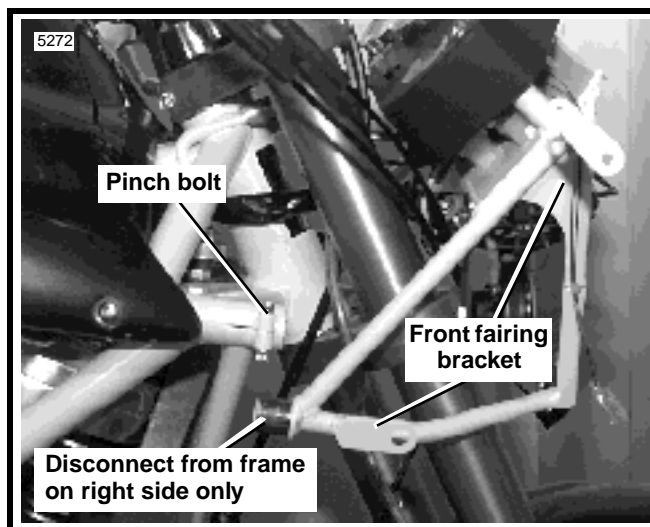

Figure 2. Front Fairing Bracket
6. Remove front fairing (9) from front fairing bracket.
8. See Figure 2. Loosen left and right pinch bolts on front fairing bracket
1. See Figure 2. Slide right side of front fairing bracket into frame socket.